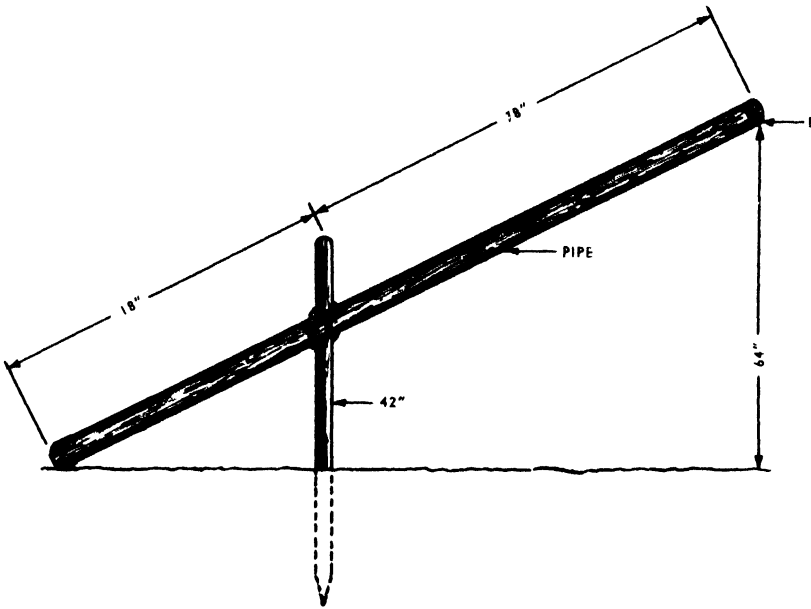

FIG. 80. PULLING A STAKE.
7. Two boys push upward (at the same point on a pipe) as shown by (E), Fig. 80, with a force of 75 lbs. The pipe weighs 50 lbs. and is